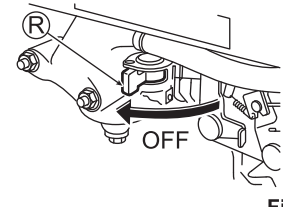

Fig. 15
- 3 Set Fuel cock (R) to "OFF". (See Fig. 15)